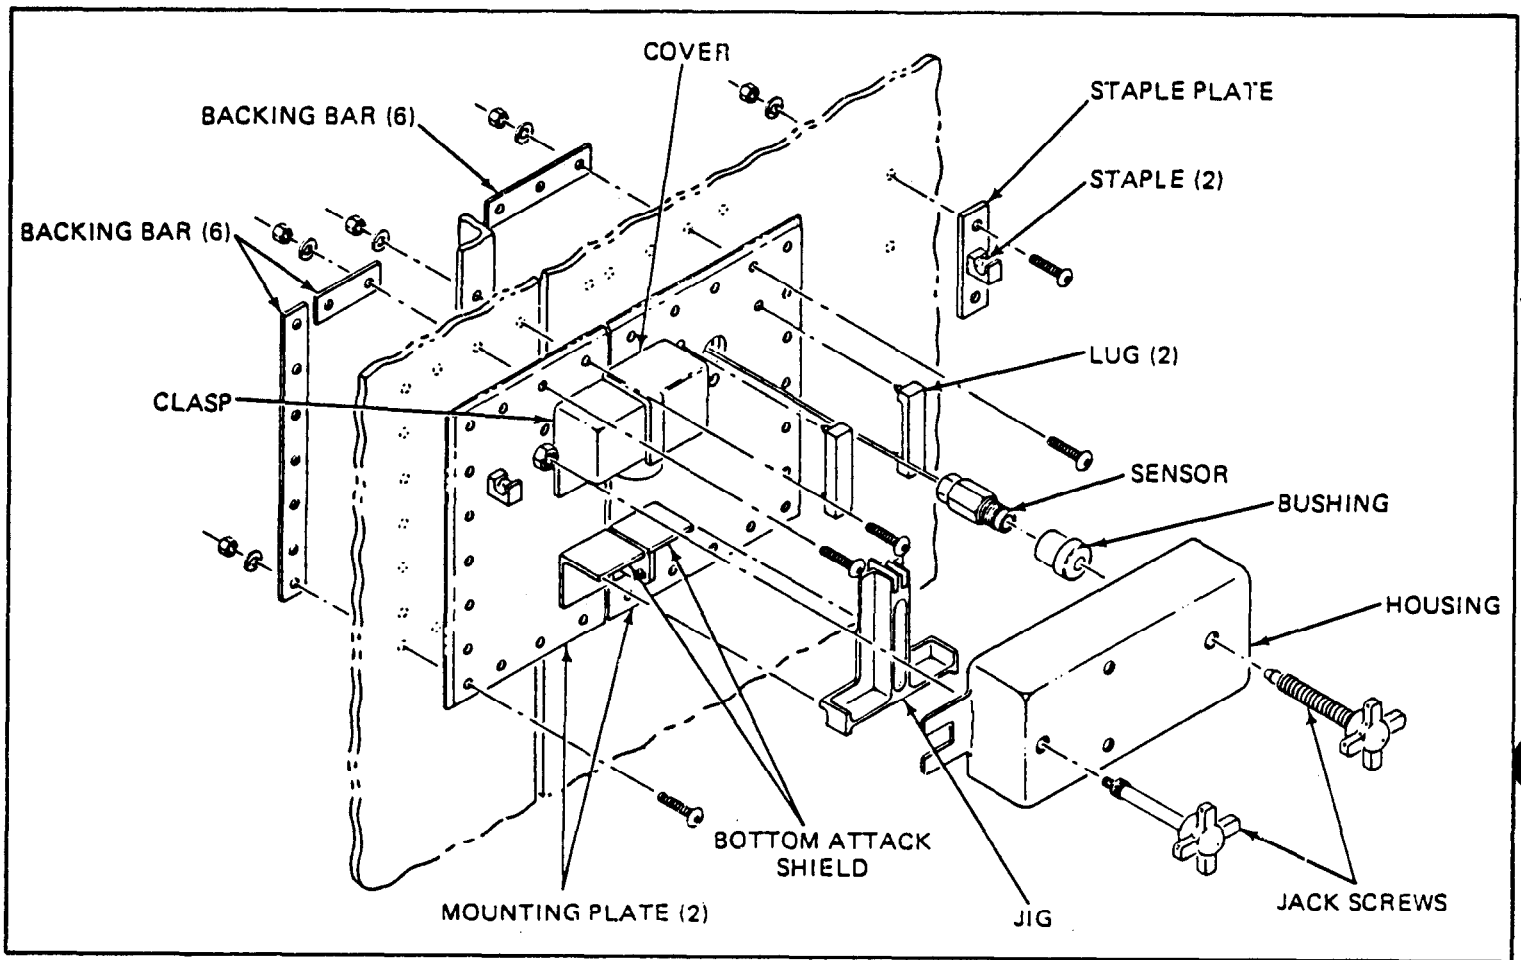

Figure 2. MK 2 MOD 8 HSSH With AIB.
(c) Locate bottom attack shield halves on mounting plates in accordance with Figure 2.
(g) Remove jig and finish welding. Stop upper weld on clasp 7/8- inch from door edge. Do not apply weld at door edge of mounting plates (Figure 2).
- (d) Position clamped assemblies on doors. Place so that plate edges bisect gap between doors in accordance with Figure 2 or 4.
- (g) Assemble remaining 28 bolts, 6 backing bars, lockwashers, and nuts (Figure 2 or 4). Tighten securely.